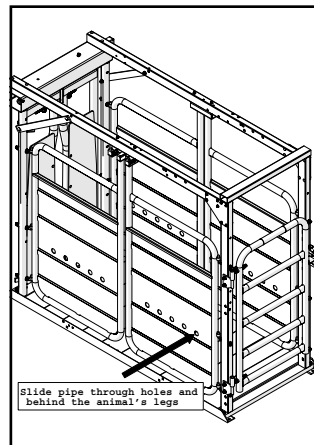

Figure 3: Holes in gates
2. Slide a pipe (anything smaller than a 1.50" diameter) through the holes in the gates behind the back legs of the animal. This will prevent the animal from backing out of the chute or kicking the operator (Figure 3).